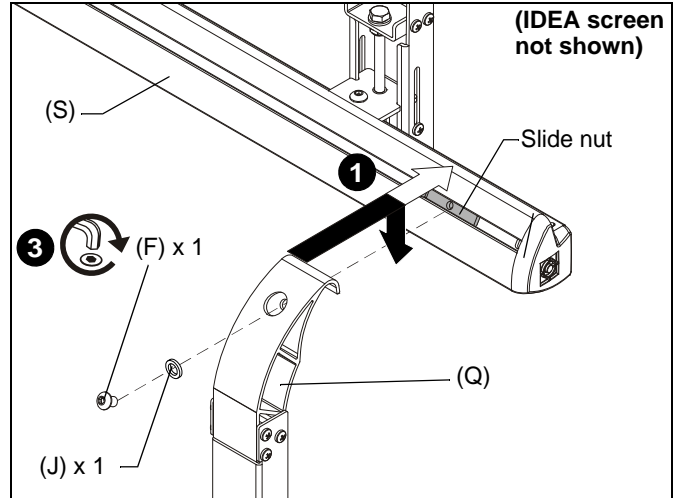

Figure 6
1. Hook screen with attached uprights onto the wall assembly (S). (See Figure 6)
2. Move the slide nut (located in the wall assembly) so that it is aligned with the upright (Q). (See Figure 6)
3. Fasten upright in place using one 1/4-20 x 3/8" button head cap screw (F) and one .4"x.255"x.0625" nylon spacer (J). (See Figure 6)